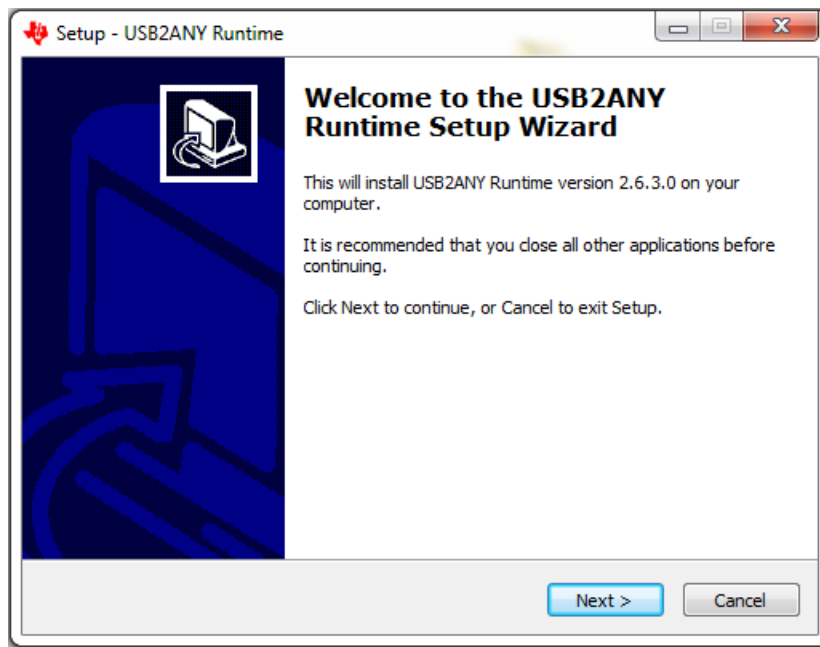

Figure 18. USB2ANY Installation Initialization
- A screen as shown in Figure 18 appears, click the **Next >** button to proceed.